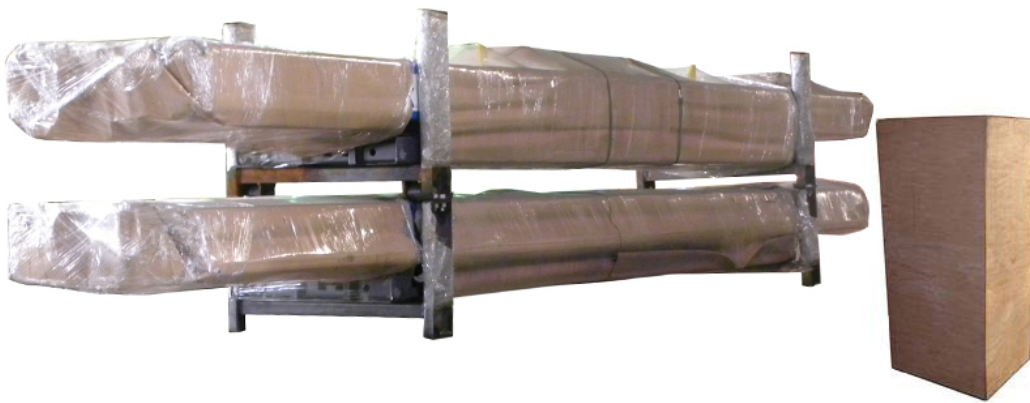

Fig. 10
1. Packaged lift and control cabinet (**See Fig. 10**).